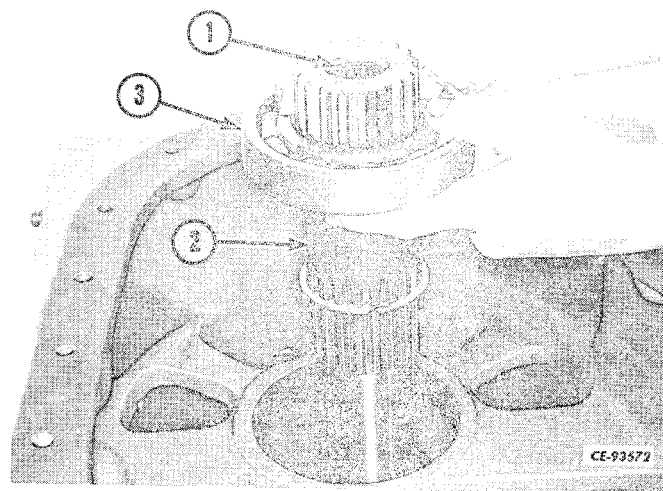

Figure 4-42
Place a jack under the output shaft (2, Fig. 4-42) and raise until one leg of stand is off the floor. Tap the transmission case with a mallet to free output shaft bearing from the housing. Remove output shaft with bearing (3) and roller bearing (1).
F units are not equipped with roller bearing (1, Fig. 4-42).